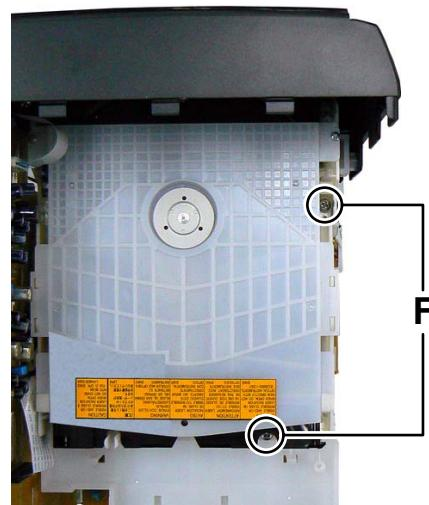

Fig.8
- (3) Remove the two screws **F** attaching the CD mechanism. (See Fig.8)